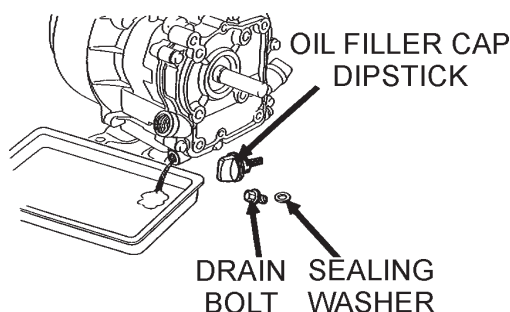

Figure 33. Engine Oil (Draining)
1. Drain the engine oil when the oil is **warm** as shown in Figure 33.